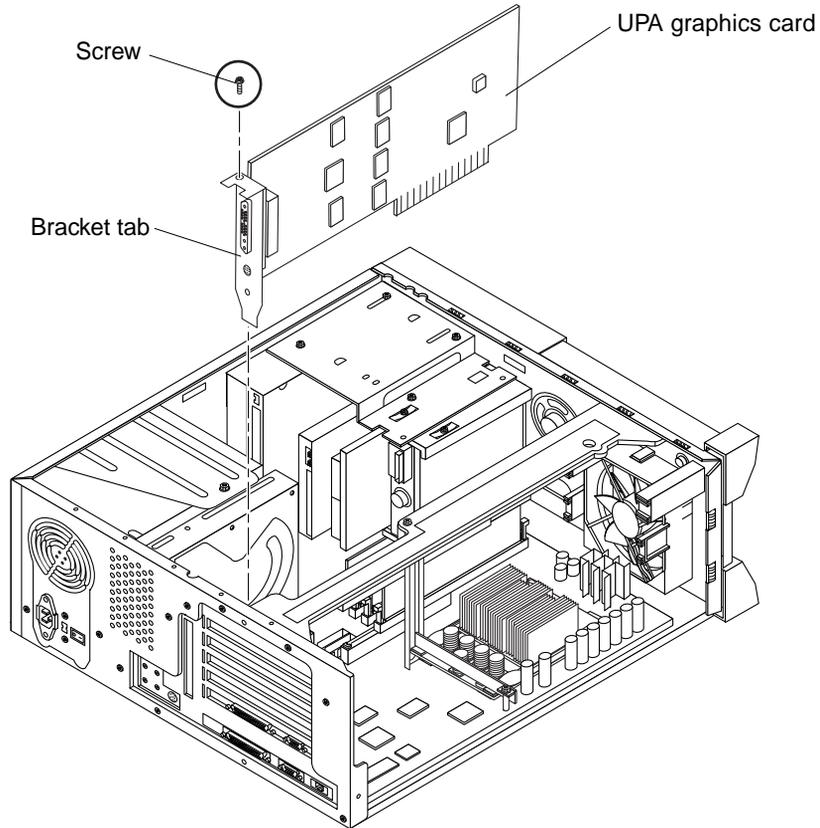

FIGURE 10-8 Removing and Replacing the UPA Graphics Card (Ultra 10)
5. **Remove a UPA graphics card as follows (FIGURE 10-8):**
1. **Replace the UPA graphics card as follows (FIGURE 10-8):**